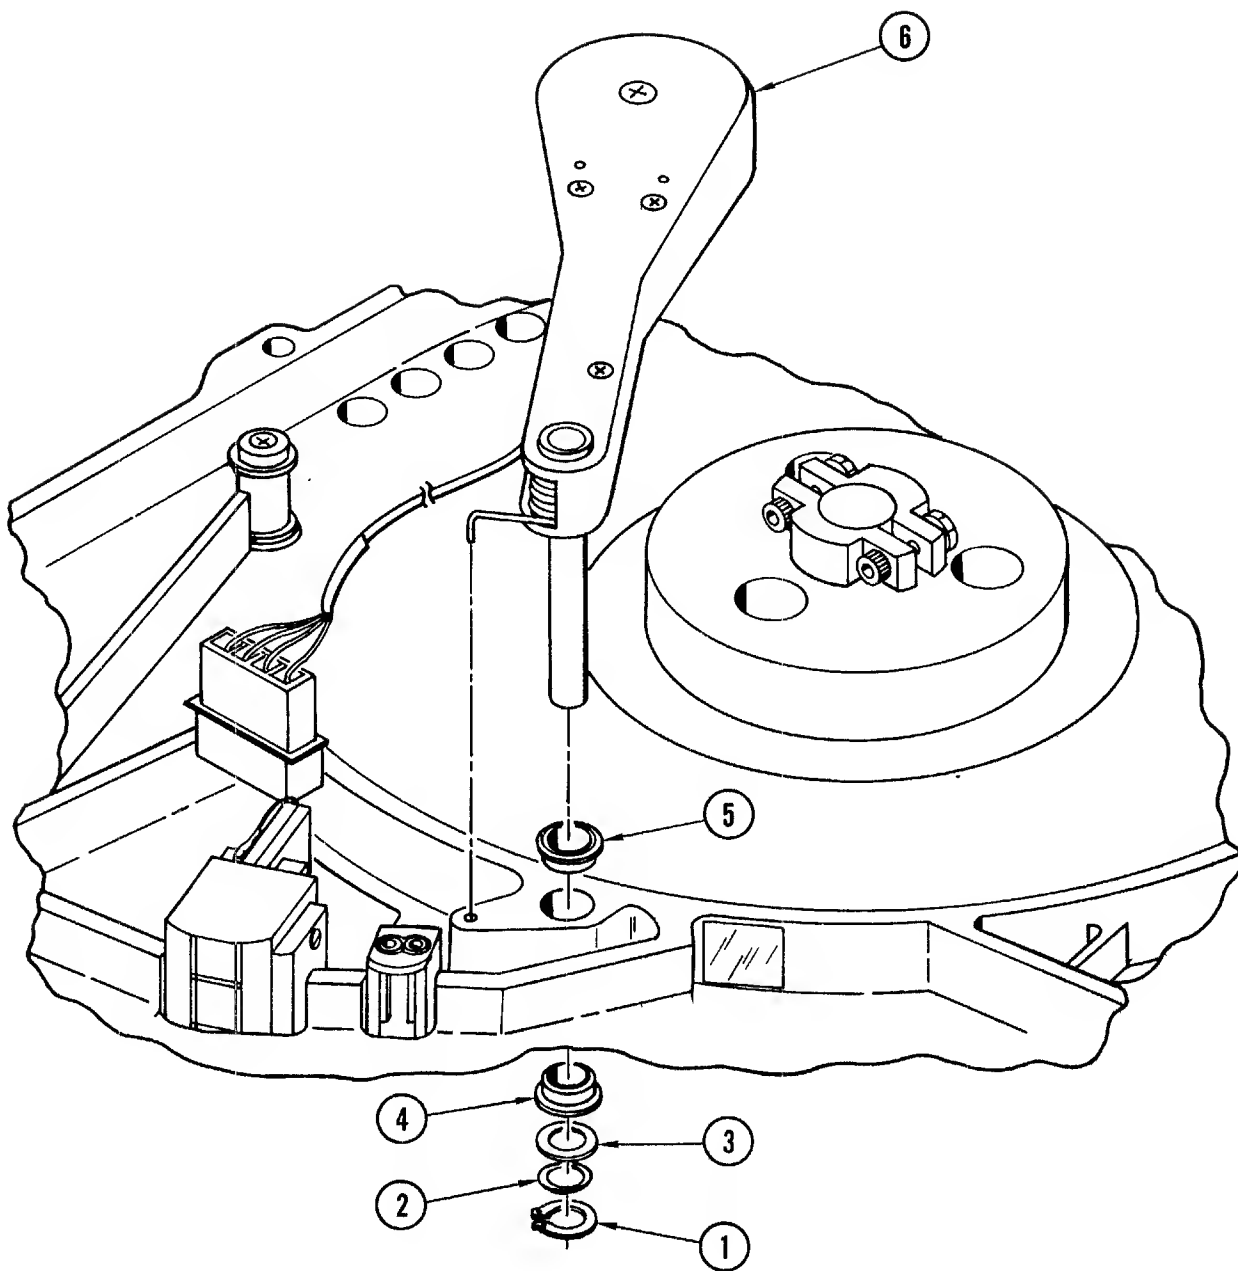

Figure 4-13. Tachometer Assembly
4-27. Removal and Replacement (Figure 4-13). Place the transport in service access position in accordance with paragraph 4-3 and proceed as follows:
- b. Remove grip ring (1, Figure 4-13), wavespring washer (2), and shim(s) (3) from tachometer post beneath top plate and save for reassembly.
- c. Remove tachometer assembly (6) from top plate, pulling wire harness and connector carefully through hole.
- d. If lower bearing (4) or upper bearing (5) was removed, apply Loctite 601 sparingly to outside surface of replacement bearing before installing.
- e. Install replacement tachometer assembly through upper bearing (5) and lower bearing (4), seating end of spring in adjacent small hole in top plate.
- f. Install shim(s) (3), wavespring washer (2), and grip ring (1). If necessary, install additional shims (3) to compress wavespring half of its height when grip ring is installed.